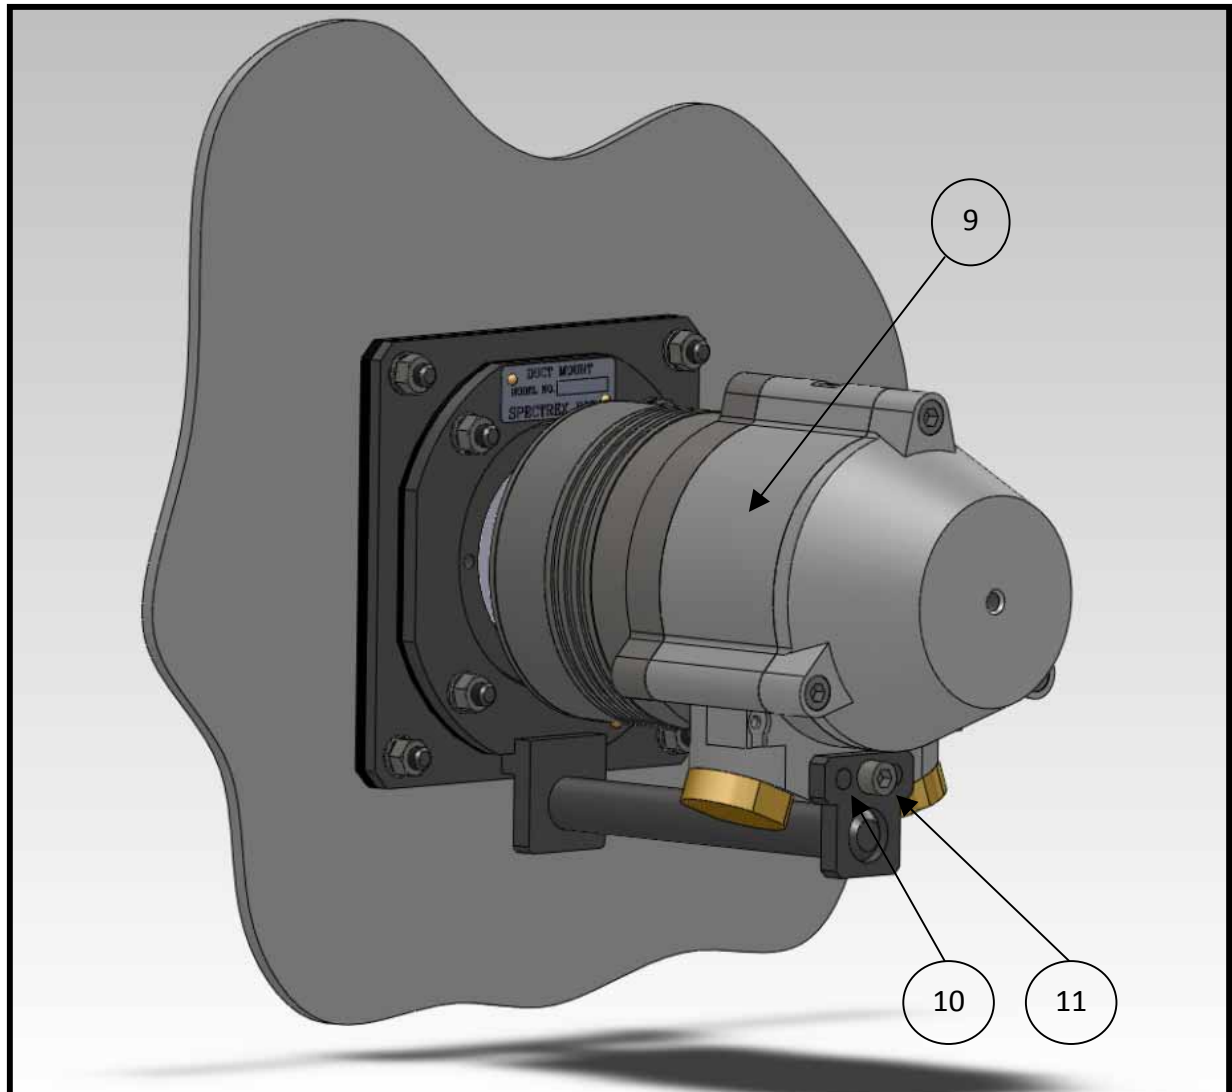

Figure 6 – Detector Mounted on a Duct Mount
4. Mounting the Detector (figure 6)